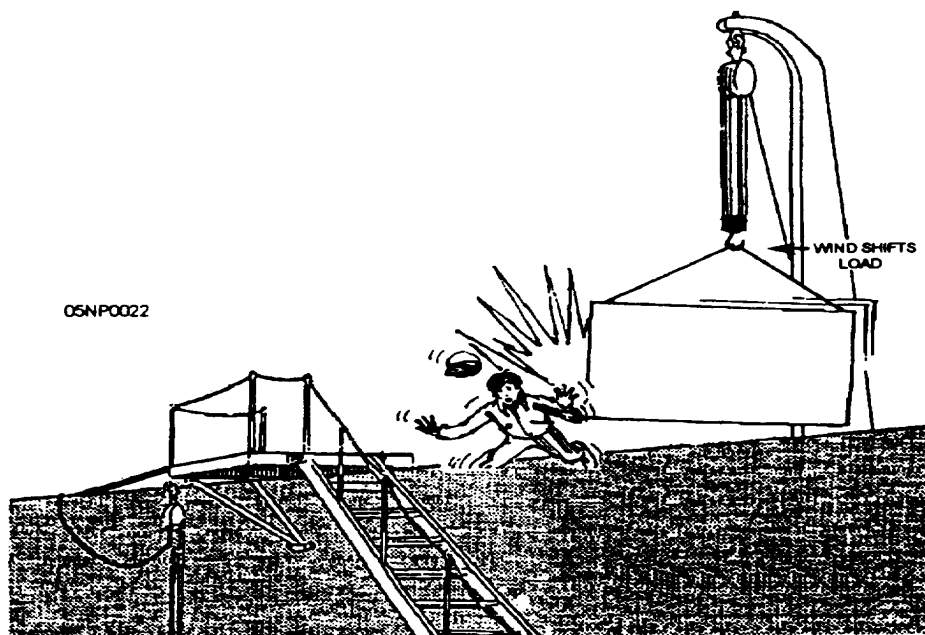

Figure 1-16.—Wind effects on load.
- Never can-y out any rigging or hoisting operation when the weather conditions are such that hazards to personnel, property, or the public are created. You must carefully examine the size and shape of the loads being lifted to determine if a hazard exists during high wind speeds. Avoid handling loads that have large wind-catching surfaces that could cause loss of control of the load during high or gusty winds. The wind can critically affect the loading and load-landing operation and the safety of the personnel involved (fig. 1-16).